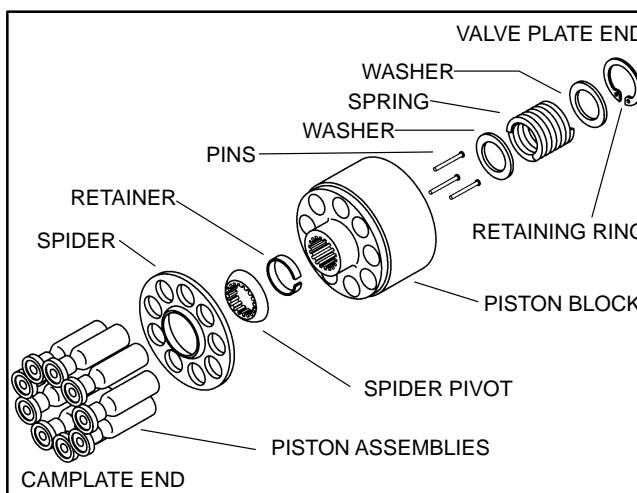
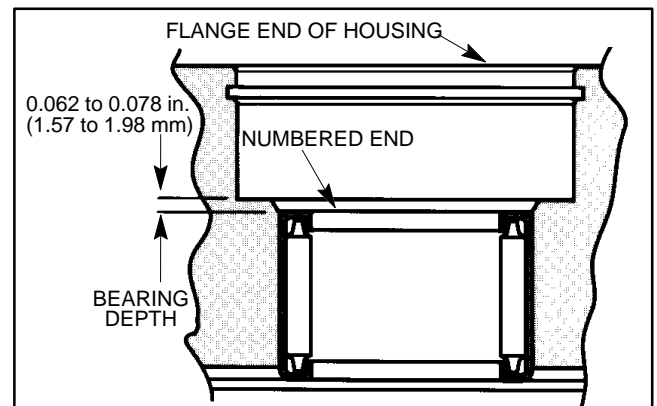

Figure 26
Figure 29
11. The rotating parts kit (29) can be removed from the shaft (31) as follows:
- A. Hold rotating parts kit (29) in place and remove the pump from the vise.
- B. Position the housing assembly (15) end of the pump up and lower the shaft (31) through the hole in the table or workbench. Allow rotating parts kit (29) to rest on the table.
- C. Remove rotating parts kit (29) by lifting away the housing assembly (15) and shaft (31).
12. The rotating parts kit (29) can be disassembled as follows (see Fig. 26):
A. Verify that bearing depth on the numbered end meets the dimension in Figure 29.
6. Inspect rotating parts kit (see Fig. 26).
2. If necessary, press new bearing (14) into housing assembly (15) to the dimension shown in Figure 29.
3. Insert camplate (20) into the housing assembly (15).
4. On the short trunnion side of the camplate (20), install bearing (13) with numbered side to the inside of the pump. Install inner race (12) with the chamfer towards the inside of the pump. Install washer (11), O-ring (10), O-ring cover (9), and trunnion cover (8). Secure trunnion cover with two screws (7) torque them from 36 to 48 in-lb (42 to 55 kg-cm).
5. On the long trunnion side of the camplate (20), install bearing (13) with numbered side to the inside of the pump. Install washer (11) and press shaft seal (17) into place. Secure seal cover (16) with two screws (7) and torque them from 36 to 48 in-lb (42 to 55 kg-cm).
6. Install retaining ring (32) towards the keyed end of the shaft (31). Slide washer (33), thrust bearing (34), second washer (33), and second retaining ring (32) into place over the splined end of the shaft.
7. Position washer (35) and shaft seal (36) onto the shaft (31) from the keyed end.
8. Install shaft (31) into the housing assembly (15) from the flanged end. Press shaft seal (36) into position with a seal driver. Install retaining ring (37) into the flanged end of the housing assembly (15).
9. Reassemble rotating parts kit as follows (Fig. 26):